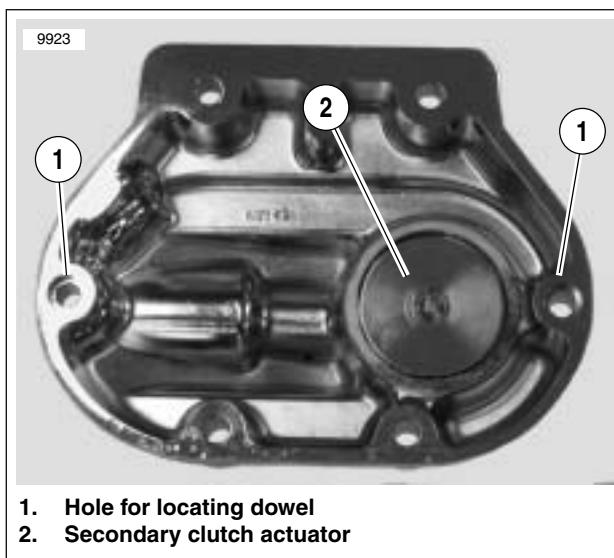

Figure 7-2. Inside Clutch Release Cover
11. See Figure 7-2. Disassemble and inspect secondary clutch actuator. Rebuild if required. See 7.5 SECONDARY CLUTCH ACTUATOR.